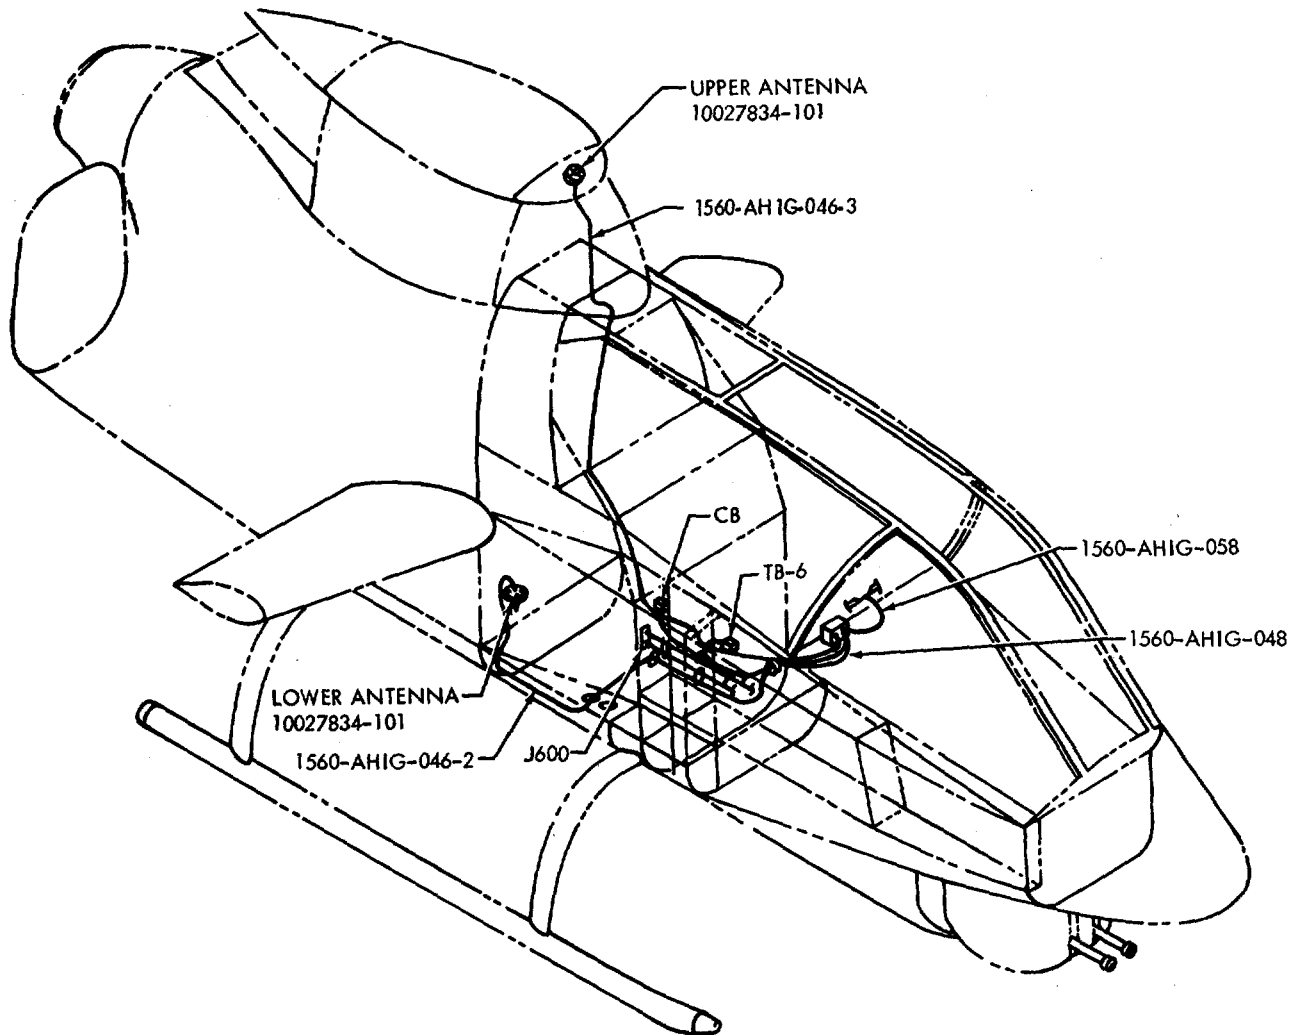

Figure 3-1. Overall view of proximity warning system installation.
*Prepare helicopter for safe ground maintenance and proceed with the following instructions: See figure 3-1 for overall view of the modification.*
- (1) Prepare for modification and proceed as follows:
**See fig. 3-1 for general routing of coaxial cable. The KA-69-131 coaxial cable connector must be located behind pilot instrument panel.**
**See fig. 3-1 for general routing of coaxial cable. The 90 degree coaxial cable connector must be located behind pilot instrument panel.**